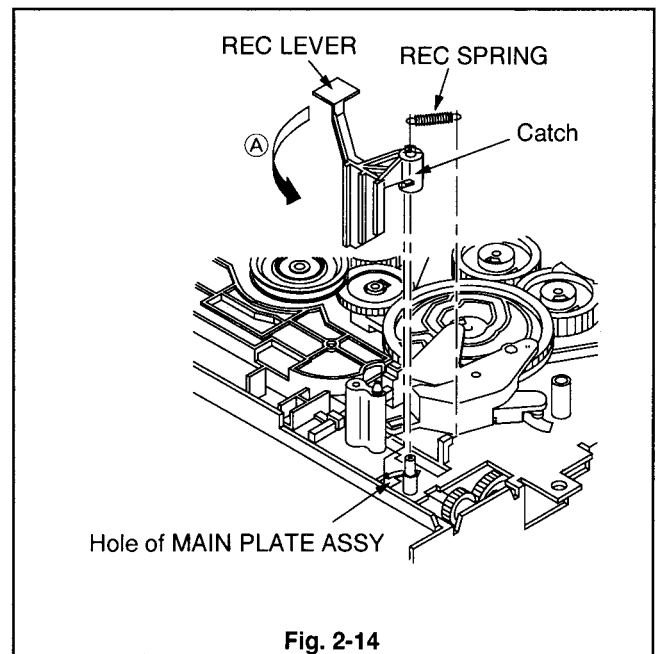

Fig. 2-14
- 1 Remove the REC SPRING shown in Fig. 2-14.
- 2 Move the REC LEVER in the direction shown by arrow ① until it strikes on the MAIN PLATE ASSY to remove it as shown in Fig. 2-14.
- 1 Insert the catch of the REC LEVER shown in Fig. 2-14 into the hole of the MAIN PLATE ASSY and install the REC LEVER.
- 2 Install the REC SPRING shown in Fig. 2-14.